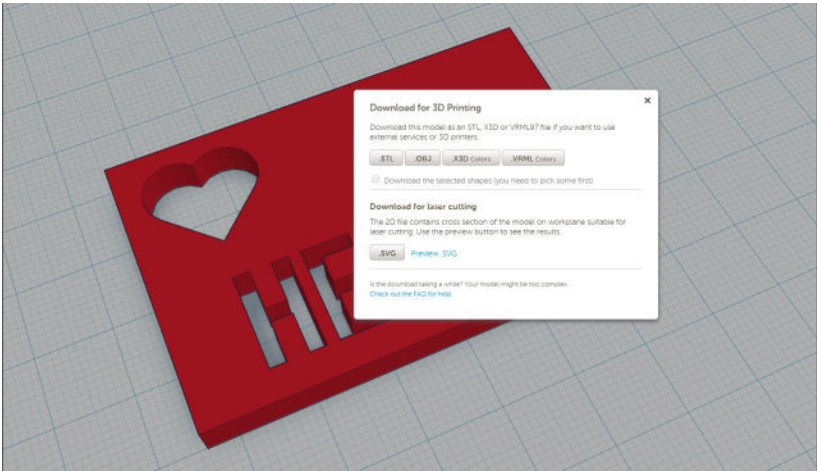

Figure 9-26. Saving file as STL from the Design menu
8. Click “Download for 3D Printing,” and then choose “.STL” as shown in Figure 9-26. This is the file format you could 3D print!